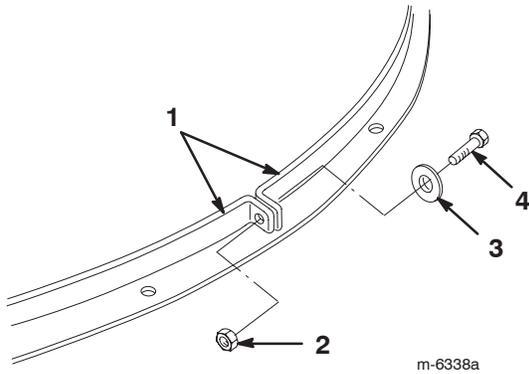

Figure 15
- Remove the bolt, washer, and nut that secure the 2 strap ends together (Fig. 15).
- Join the 2 strap ends around the Recycler cover as shown (Fig. 15).
- Join the 2 strap ends around the discharge chute as shown (Fig. 15).
16. Align the holes in the strap ends and fasten them together snugly with the bolt, washer, and nut you previously removed (Fig. 15).